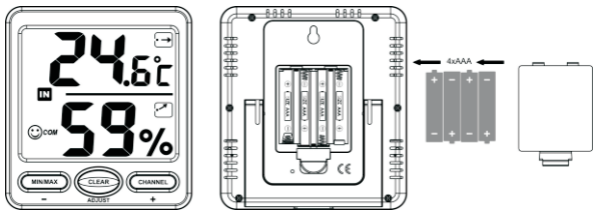

Figure 4
2. Remove the battery door on the back of the display, as shown in **Figure 4**. Insert four AAA (alkaline or lithium, avoid rechargeable) batteries in the back of the display console